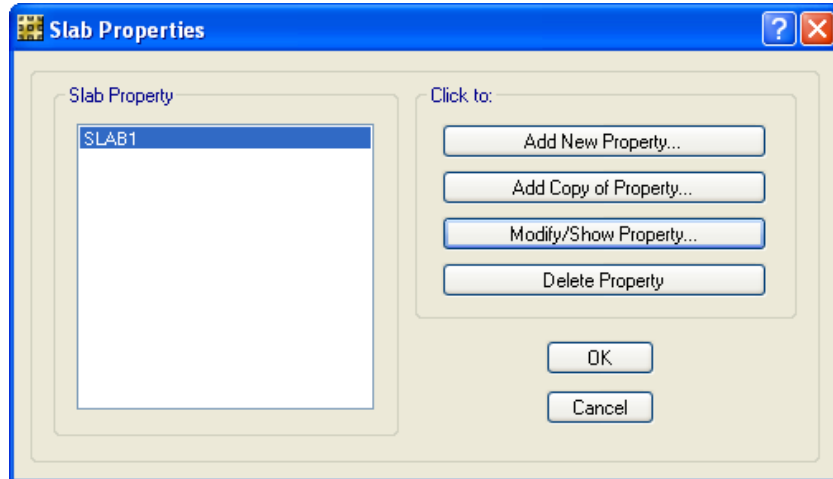

Figure 11 Slab Properties form
- A. Click the Define menu > Slab Properties command to access the Slab Properties form shown in Figure 11.